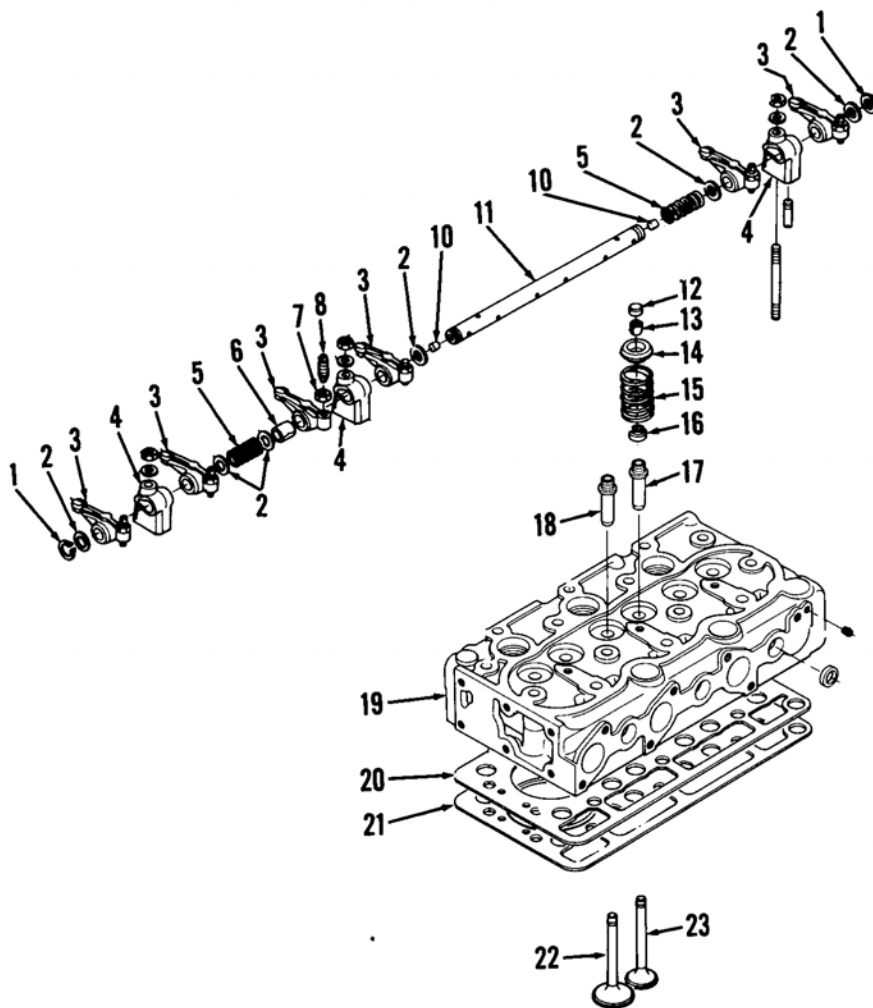
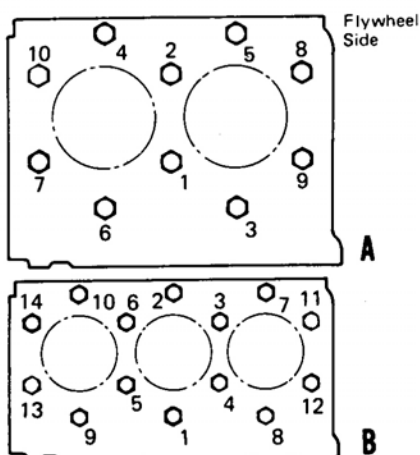

Fig. 15—Exploded view of cylinder head and valve train.
Fig. 14—Follow sequence in diagram A when tightening cylinder head fasteners on two-cylinder models or diagram B on three-cylinder models.
To check valve-to-piston clearance, install head and gasket with valves and springs installed but with injectors removed. Tighten head fasteners to 42-47 N·m (31-35 ft.-lbs.) torque following sequence shown in Fig. 14. Using a suitable measuring gage such as soft solder or Plastigage, insert gage between each valve and piston crown while rotating crankshaft through top dead center. Minimum allowable valve-to-piston clearance is 0.6 mm (0.024 inch). Clearance may be increased by installing a shim gasket (20—Fig. 15) between cylinder head (19) and head gasket (21). Shim gasket thickness is 0.2 mm (0.0079 inch).
Reverse removal procedure to reinstall cylinder head. Refer to Fig. 14 for cylinder head tightening sequence.
Rocker arm bushings (6—Fig. 15) are renewable. Bushing ID should be 10.997-11.038 mm (0.4330-0.4346 inch). Rocker shaft OD should be 10.973-10.984 mm (0.4320-0.4324 inch). Maximum allowable clearance between shaft and rocker arm bushing is 0.12 mm (0.0047 inch).